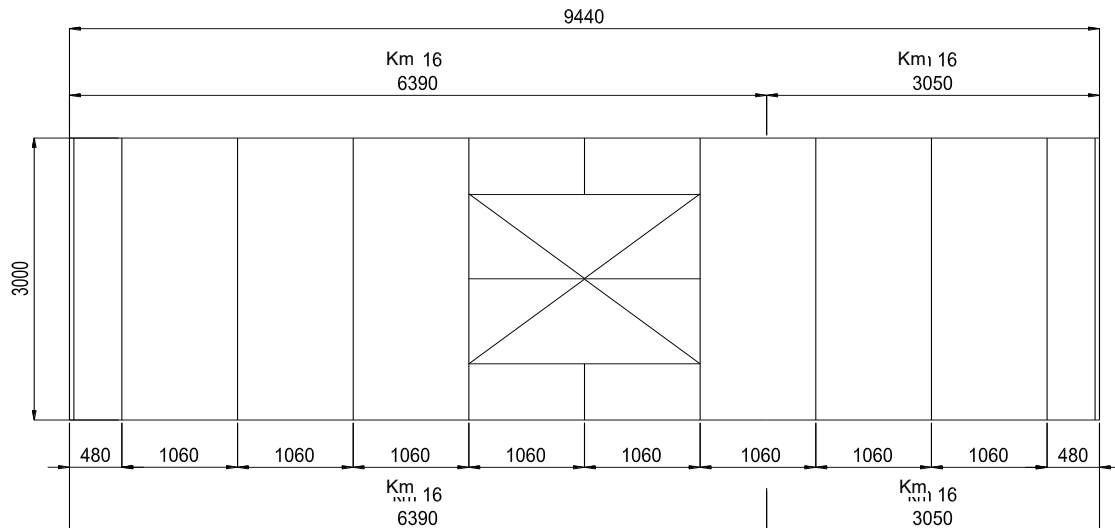

Figure 30 Example layout of the bearing and edge profiles of a continuous rooflight
1. Start by fixing the edge profiles (Km XX or Kd XX) to the rooflight base. First, lay out the profiles on the roof surface along the rooflight base according to the assembly drawing attached to the delivery. (Figure 30 Example layout of the bearing and edge profiles of a continuous rooflight) shows an example layout of edge and bearing profiles.